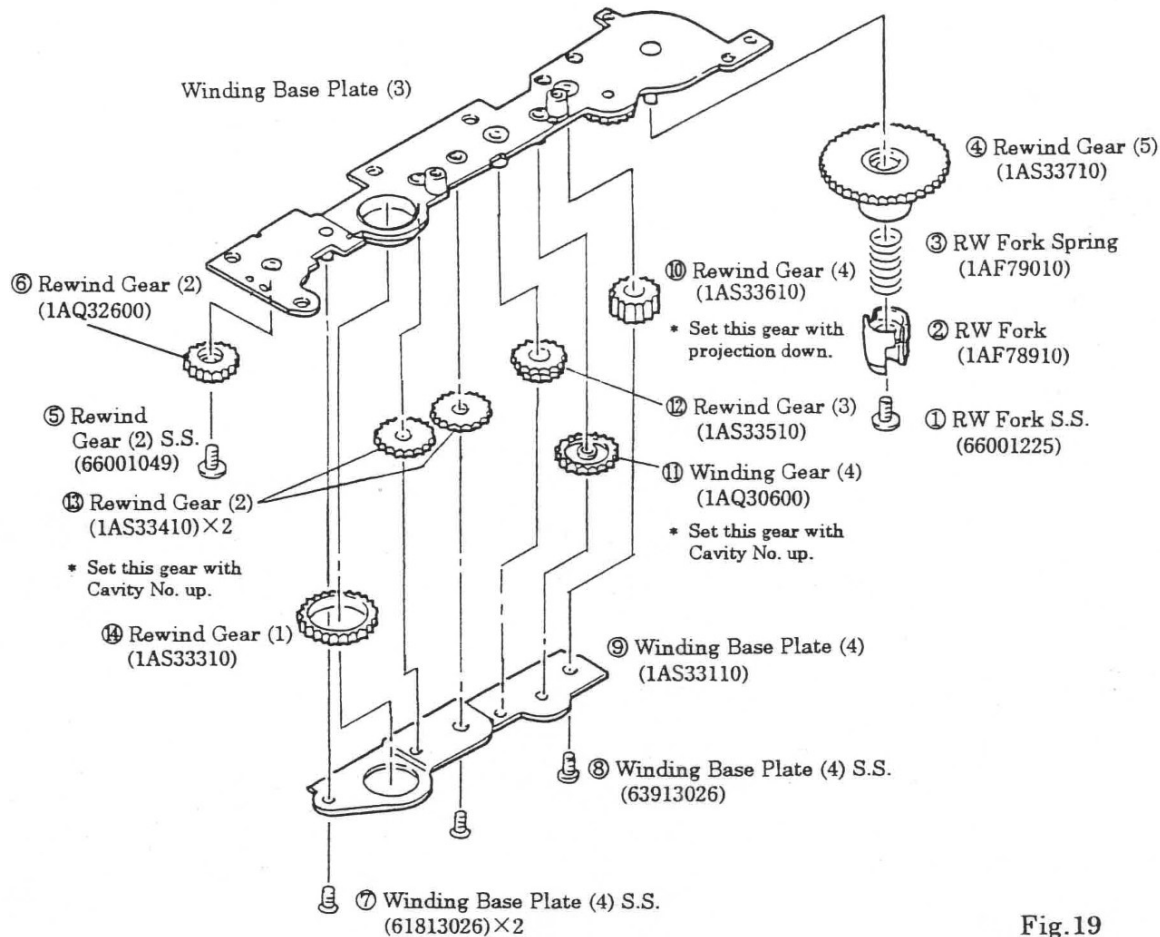

Fig.19
- 1) Remove parts in the numerical order of ① to ⑭ shown in Fig. 19.